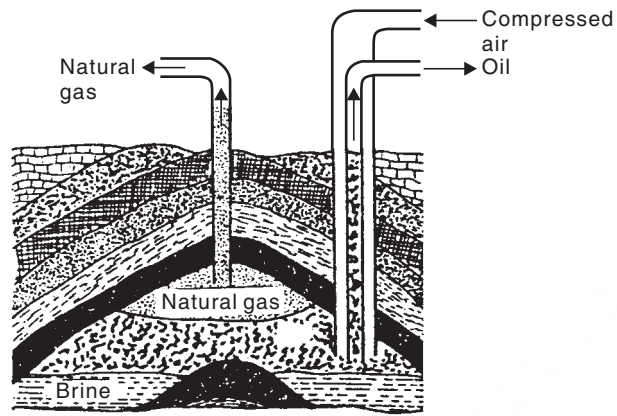

Fig. 18.5 Mining of crude oil and use of air-lift pump.
**Drilling:** Oil is brought to the surface by drilling holes upto the oil bearing surface. By the hydrostatic pressure of natural gas the oil is pushed up or it is pumped up by means of a pump. Two coaxial pipes are lowered to the oil reservoir, through the outer pipe compressed air is forced, whereby the oil is forced out through the inner pipe. This crude oil is sent to the refineries for further processing and refining of the crude oils (Fig. 18.5).